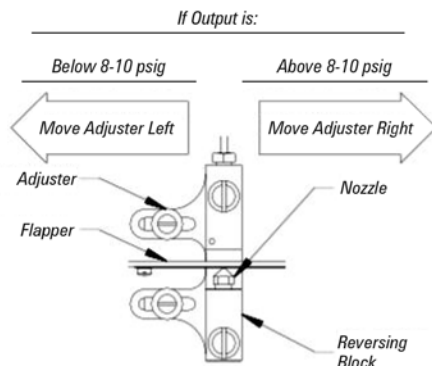

Figure 8 Reverse-Acting Controller Span Adjustment
8. Adjust the controller span by loosening the two screws and moving the calibration adjuster a small distance. (Refer to Figure 8)